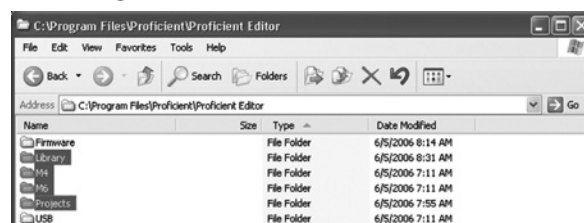

Figure 55 Selecting Files for Backup
4. Copy and Paste or Drag and Drop the **Controller**, **Library** and **Projects** folders to a CD-ROM or other storage media. Refer to **Figure 55**.